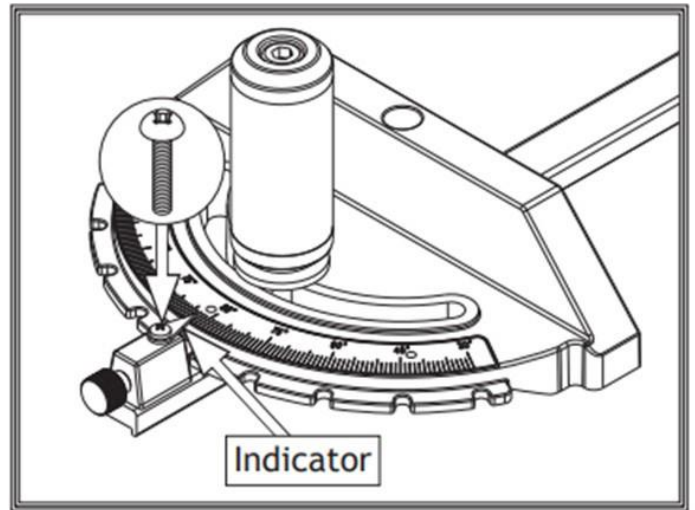

Figure 66: miter indicator adjustment.
- 5 - Loosen the Philips screw shown in figure 66, adjust the indicator to point at 90°, then tighten the screw and secure it.